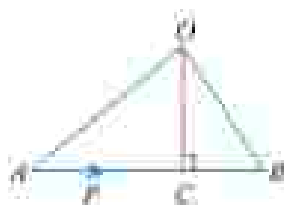

Fig. 1.26
- Consider a force P represented, in magnitude and direction, by the line AB . Let O be a point, about which the moment of this force is required to be found out, as shown in Fig. 1.26 from O , draw OC perpendicular to AB . Join OA and OB .